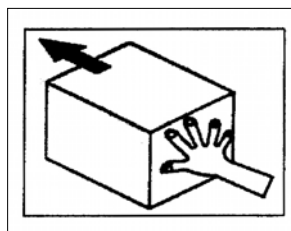

Fig 1-1
1. This label shows the entry point of the boxes. [Fig 1-1]